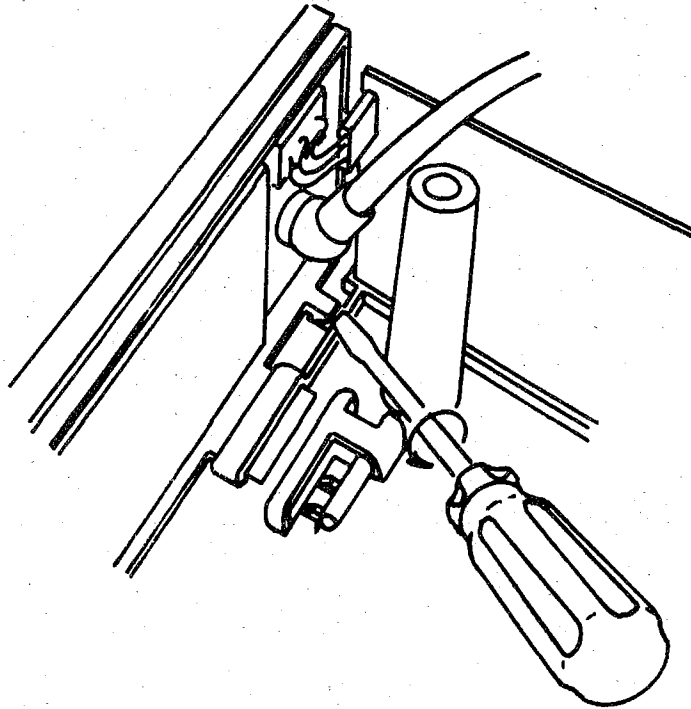

Fig. 4-2: Monitor front panel latch locations.
4. Use a small blade screwdriver to disengage the front panel latches and pry them free one at a time. See Figure 4-2.